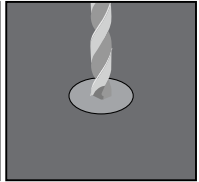

Figure 14.4
6. Then drill a 1/2 in./12mm diameter hole with a depth of 2 1/8 in./54mm and remove any excess dust (Figure 14.4).